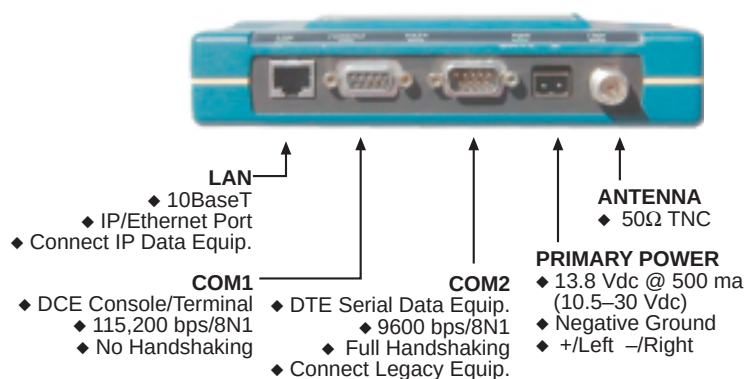

Figure 9. MDS iNet Interface Default Configuration & Functions
Connect the data equipment to one of the transceiver's three ports: LAN, COM1 or COM2. Use only the required pins for the application—do not connect anything to unused pins. See Figure 19 on page 33 details on COM1 Port and Figure 20 on page 34 for the COM2 Port. Figure 9 on page 16 identifies the port's factory defaults.
Figure 9 on page 16 shows the default functions and services for the front panel interface connectors. The three data ports—LAN, COM1 and COM2—are user configurable through the use of a terminal connected to the COM1 port or a HTTP browser through the Ethernet port.
NOTE: The data communications parameters and functions described in the installation procedures and shown in Figure 9 on page 16 are based on factory defaults. If the COM1 Port is configured to transport data, connect to it with a terminal program and use the **ESC + K** sequence to reset the radio's data interface ports to the default settings.
- a. Connect a personal computer's serial communications port (COM1 or COM2) to the COM1 Port connector on the radio transceiver. (See Figure 9 on page 16 for location. Data defaults: 115,200 kpbs/8N1.)
- a. Connect a personal computer's Ethernet port to the EHTERNET Port connector on the radio transceiver. (See Figure 9 on page 16 for location.)
Connect a personal computer's Ethernet port to the ETHERNET Port connector on the radio transceiver. (See Figure 9 on page 16 for location.)